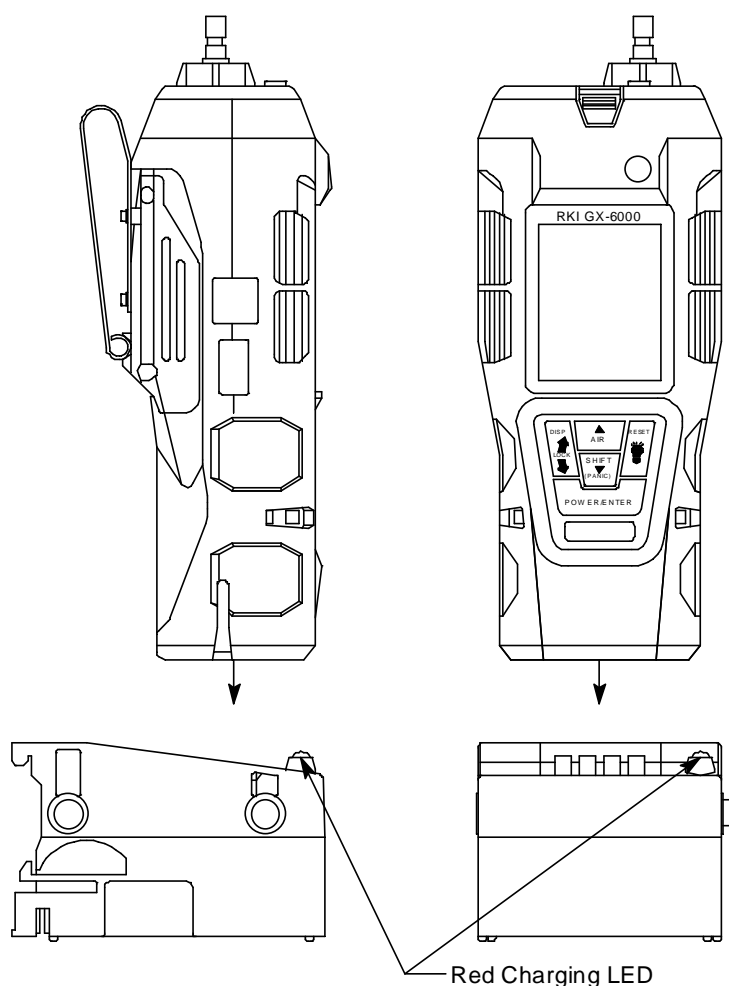

Figure 17: Putting the GX-6000 into the Charging Station
- 4 . Place the GX-6000 into the battery charging station as shown in Figure 17 below so that the metal contacts on the back of the unit come into contact with the metal contacts on the back of the holder in the charging station. When proper contact has been made, the red LED on the charging station will turn on.